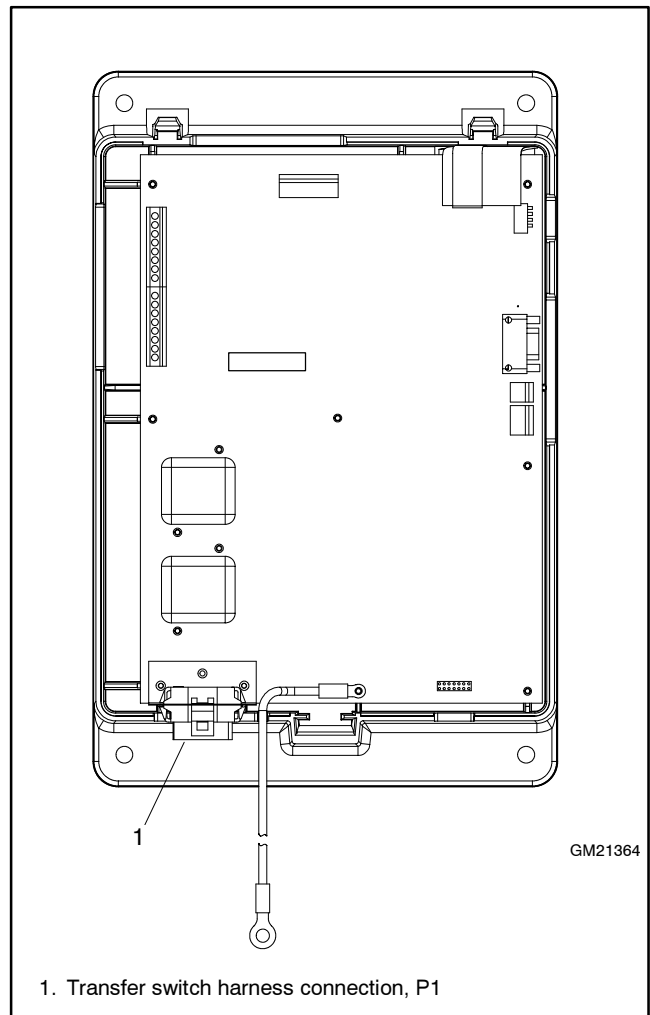

Figure 3-8 Transfer Switch Harness-to-Controller Connection, P1
1. Connect an ohmmeter or test lamp across pins 8 and 9 of connector P1 (the transfer switch harness-to-controller connection). See Figure 3-8.